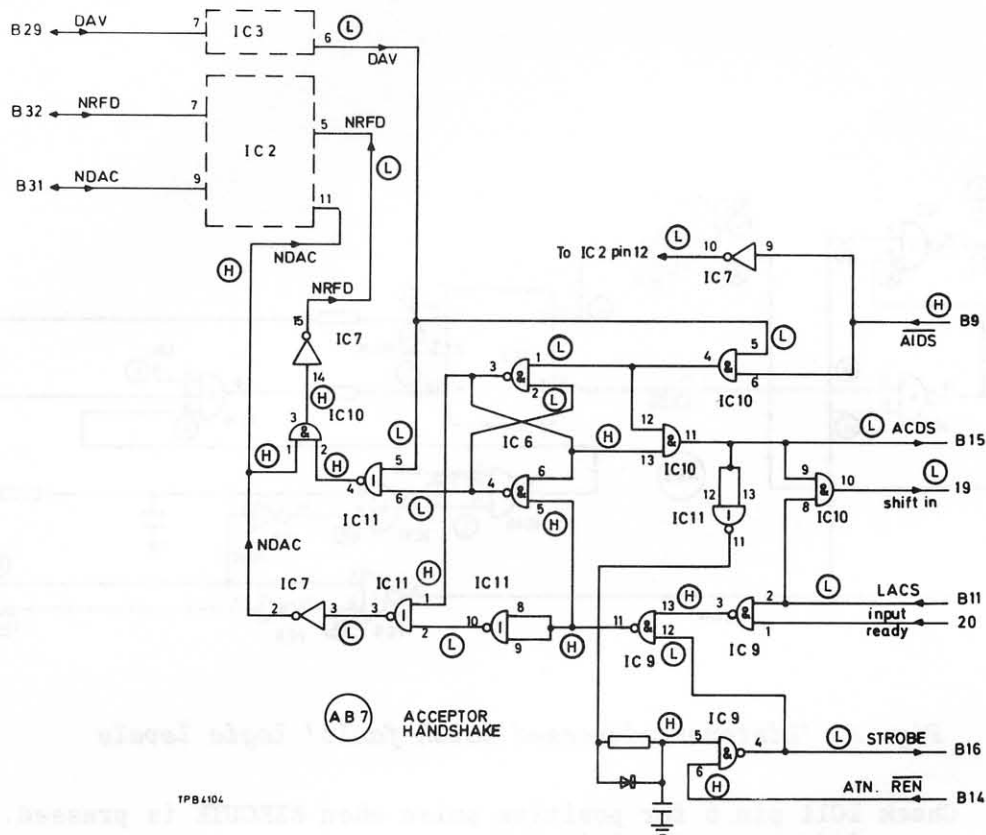

Fig. 10 'Address recognition strobe fault' and 'Acceptor handshake control fault (b)' logic levels
(1) Place AB7 on extender board. Check REN and ATN are at 1. Set DIO lines to MLA.
(2) Check AB7, B16 for positive pulse when EXECUTE is pressed to send MLA. If not, localize fault by comparing logic levels with those shown in Fig. 10.
- (1) Place AB7 on extender board and switch on. Set REN and ATN to 1. Set DIO lines to MLA and press EXECUTE.
- (2) Localize fault by comparing logic levels with those shown in Fig. 10.